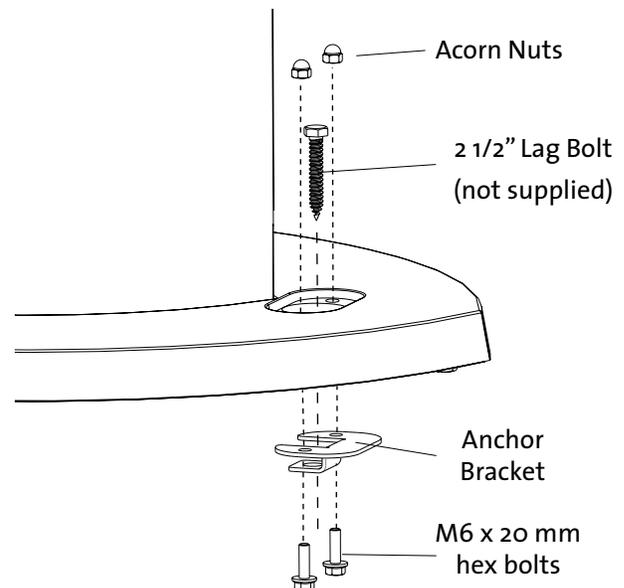

Figure 12.
2. Place the pedestal on its side and use the two, M6 x 20 mm hex bolts to install the anchor bracket to the underside of the base plate as in fig. 12.